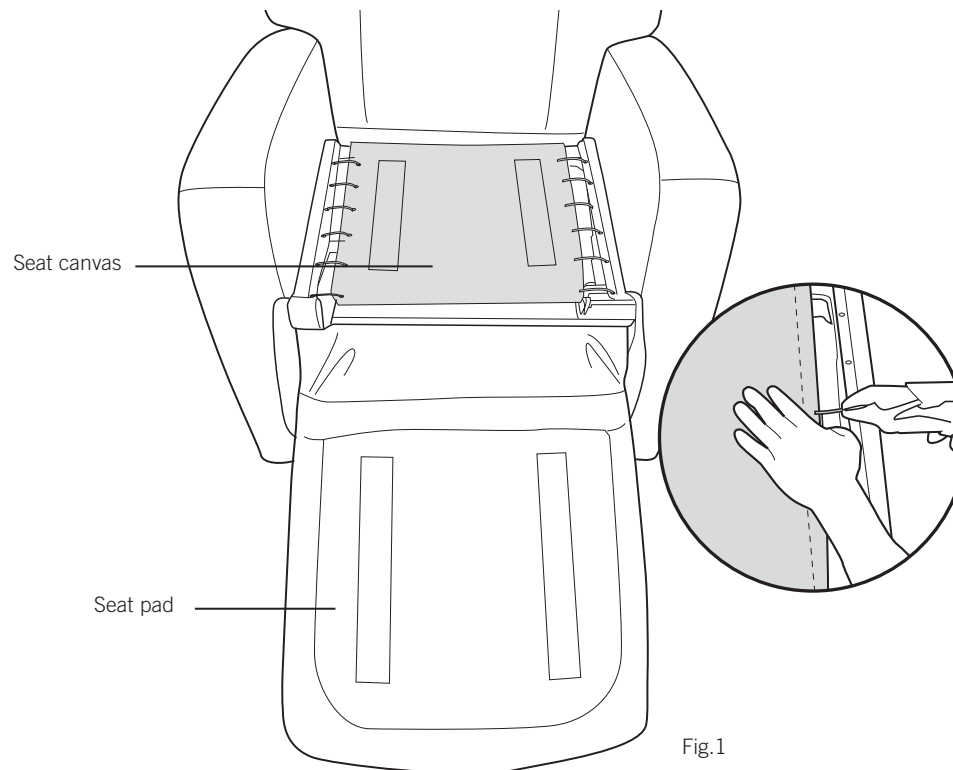

Fig.1
1. Pull up on the seat pad to detach it from the chair, then flip it forward, out of the way (the front flap can remain attached to the chair). (Fig.1).